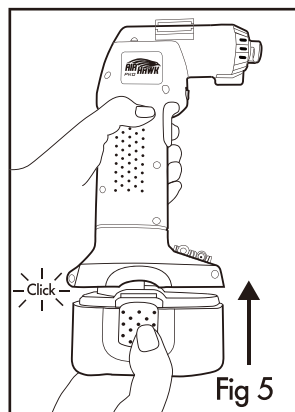

Fig 5
3. Slide the 12V DC Car Adapter pack into Air Hawk™ Pro until you hear a click (See Fig 5).